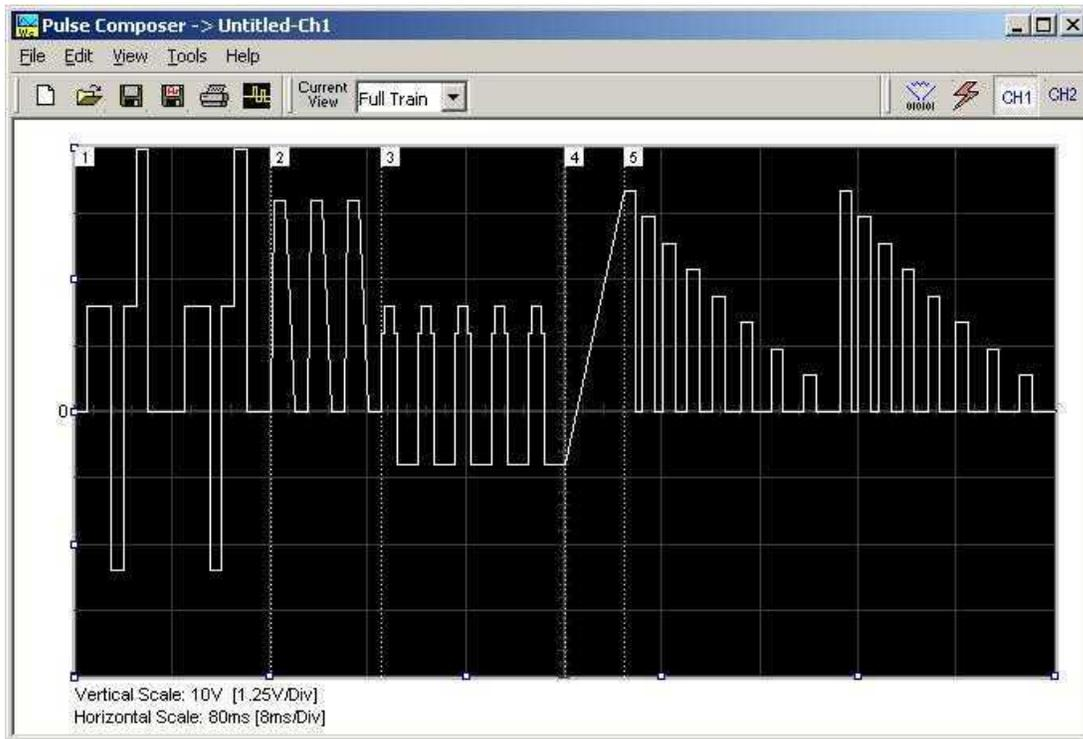
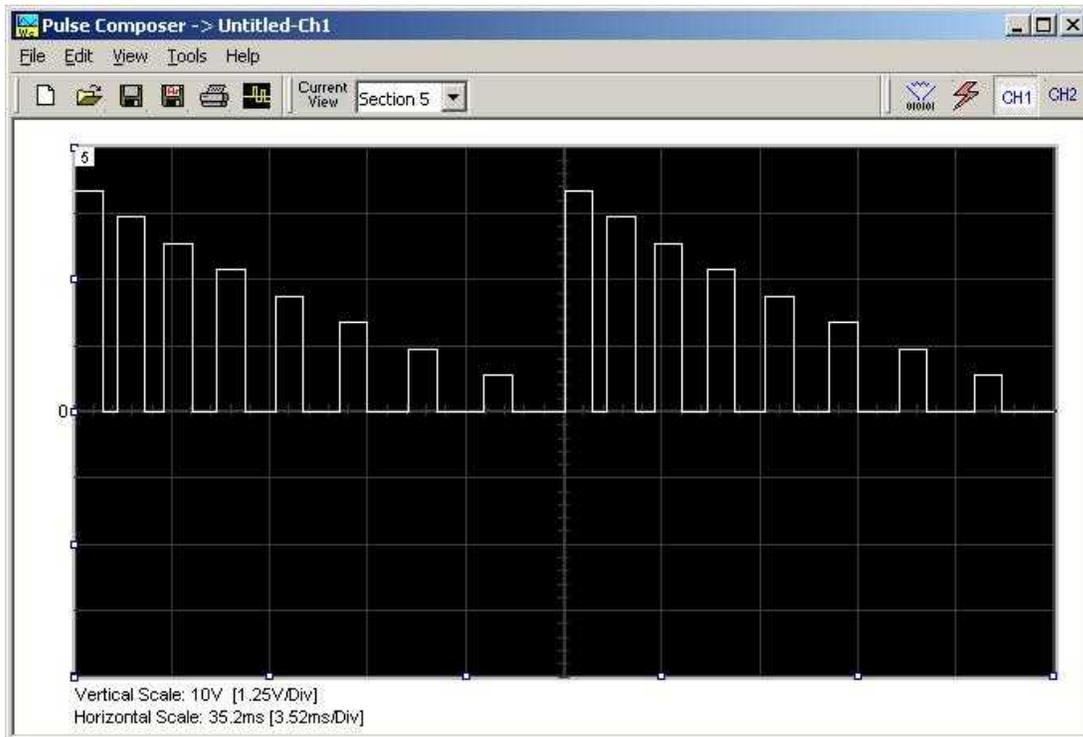
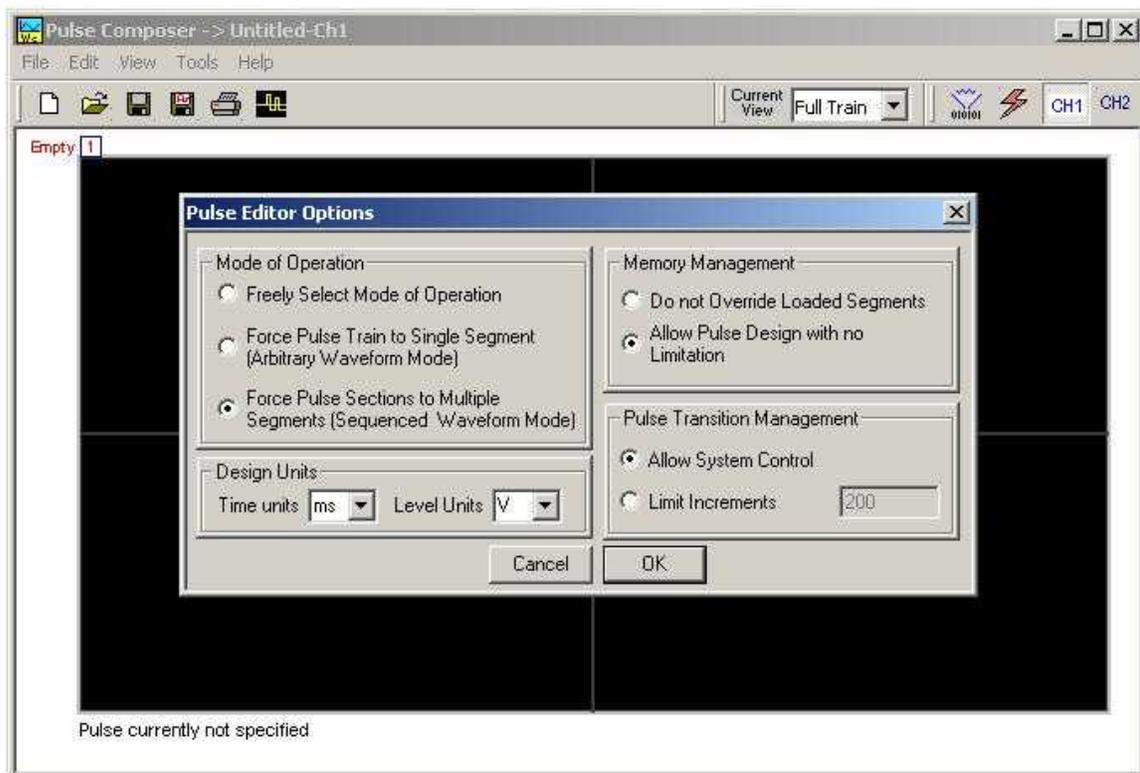

Figure 3-35, Complete Pulse Train Design
Figure 3-36, Section 5 of the Pulse Train Design
Figure 3-37, Selecting Pulse Editor Options
Pulse train is constructed from 1 or more sections. If the pulse is simple, it can be created using one section only. For more complex pulse train, the train can be divided to smaller sections and each section designed separately for simplicity. Figure 3-35 shows a complex pulse train which was made from five simpler sections and Figure 3-36 shows the design of the fifth section only of the pulse train.
Now that we somewhat understand the terms we use for the pulse design, we start with an example how to design the pulse train as shown in Figure 3-35. If you already have some pulses shown on your pulse composer screen, click on New to start from a fresh page. Another step before you design your pulse train is to set the design parameters in the options menu that will determine the way that the pulse will be distributed in your waveform memory. Click on View→Options and refer to Figure 3-37 throughout the following description.
As shown in Figure 3-37, the pulse editor option dialog box is divided to functional groups: Mode of operation, Design Units, Memory Management and Pulse Transition Management. These groups are described below.
**Pulse Example, Section 3** The second pulse section is complete. We are ready now to start building the third section of the pulse as shown in Figure 3-36. Point and click on the Edit command and select the Append Section option. A new section number will appear but it will show empty next to the section identifier.
The third pulse section is complete. We are ready now to start building the fourth section of the pulse as shown in Figure 3-36. Point and click on the Edit command and select the Append Section option. A new section number will appear and will show empty next to the section identifier.
**Pulse Example, Section 5** The fourth pulse section is complete. We are ready now to start building the fifth and final section of the pulse as shown in Figure 3-36. Point and click on the Edit command and select the Append Section option. A new section number will appear and will show empty next to the section identifier.